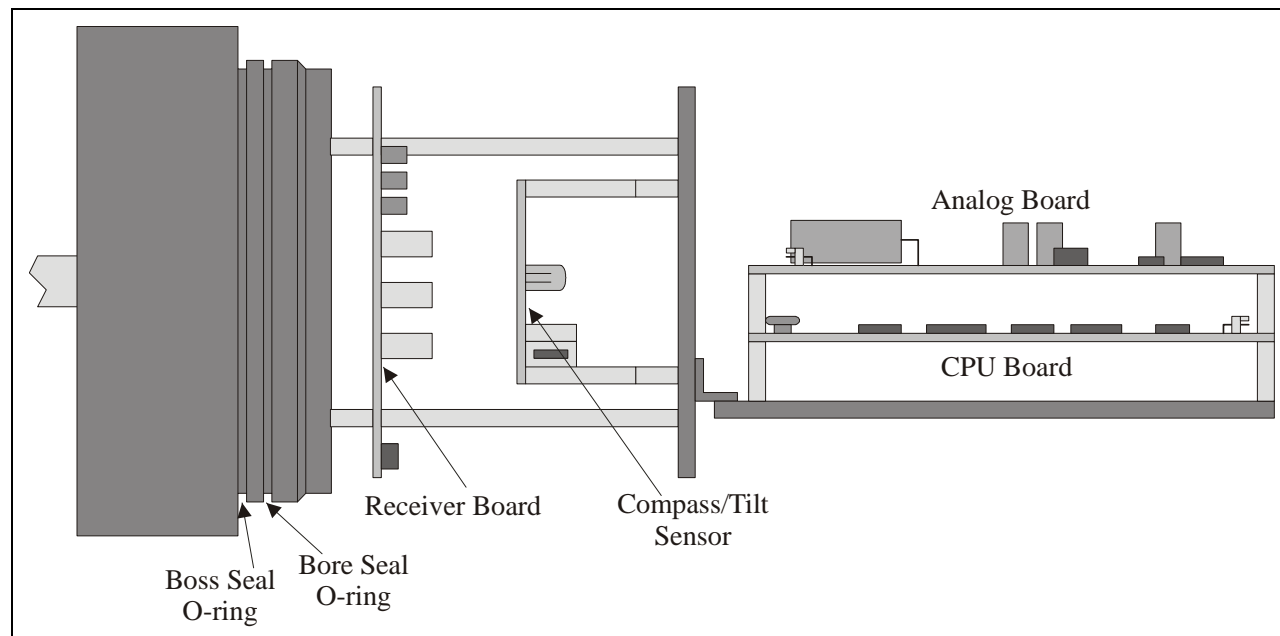

Figure 7 – Internal Electronics (Underwater and Autonomous Configurations)
Figure 7 shows the internal layout of the Argonaut-ADV for the underwater and autonomous configurations. The system is shown with the mounting stem and probe to the left, and the optional compass/tilt sensor installed for down-looking operation (§4-2).
- The processor (analog and CPU boards) is mounted on two sets of four 1/2" standoffs. The analog board is on top of the CPU board. The two boards connect via an edge connector at the right end (as shown in Figure 7). See Section 5-3 for a description of the processor.